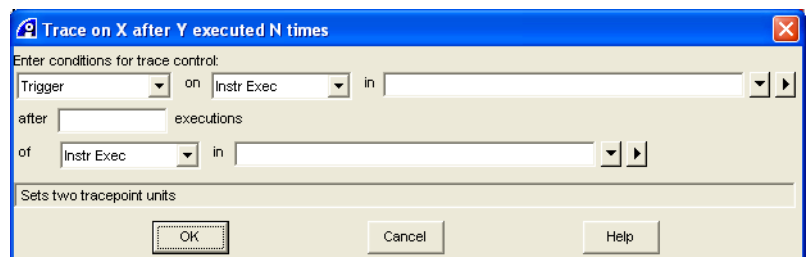

Figure 10-93 Trace on X after Y executed N times dialog box
2. Select **Debug** → **Tracepoints** → **Trace on X after Y executed N times...** from the Code window main menu to open the Trace on X after Y executed N times dialog box. Figure 10-93 shows an example: